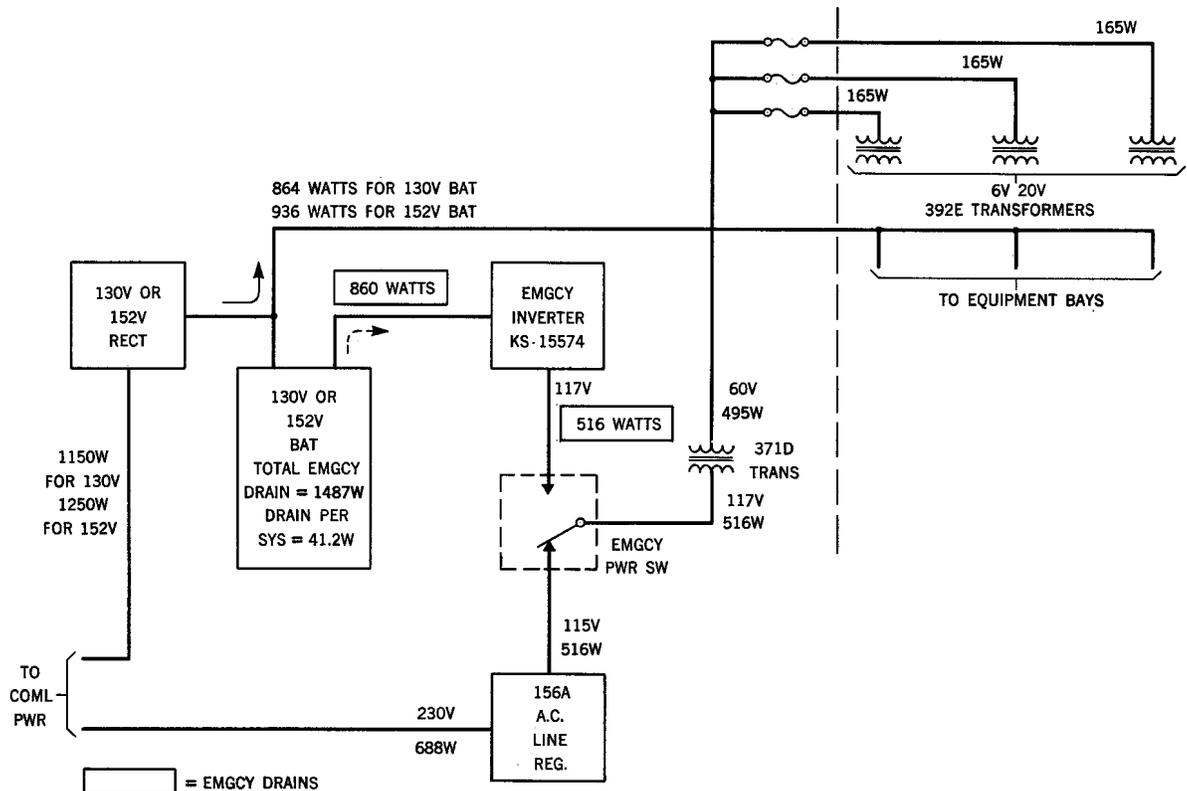

Fig 6 - Power Arrangements for ON/K Equipment
6.02 Arrangements for powering the ON/K transmitting and receiving amplifiers are shown in Fig. 6. At K carrier main and terminal stations, the ON/K receiving amplifiers use a +130 volt plate supply whereas the transmitting amplifiers employ +130 volts and -24 volts for the plate supply. Both amplifiers use a +152 volt plate supply at K auxiliary stations. Each terminal, repeater, and junction mounting is equipped with alarm-type fuses for the heater and plate circuits. The deviation equalizer uses +130 volts for both plate and heater supply. A built-in resistor reduces the +130 volts to 19.25 volts for the heater supply. At K auxiliary stations an ED-92484-30, G7 voltage dropping panel is used to drop the +152 volt supply to +130 volts.
6.03 The ac heater supply is also shown on Fig. 6. A 19.25 volt supply is required for the 408A tube (2 per receiving and 1 per transmitting amplifier) and a 6.1 volt supply is required for the 418A tube (output tube of transmitting amplifier). An ac supply is used in preference to dc to eliminate the power waste caused by using dc dropping resistors. The normal heater voltages of 6.3 and 20 volts were lowered to the values stated above to provide for longer tube life. A ±0.1 volt tolerance is maintained on the heater voltages to insure the longer tube life. A center tap on the 19.25 volt winding of the heater supply transformer provides 9.62 volts ac for the thermistor heater in the transmitting amplifier. Taps are provided on the